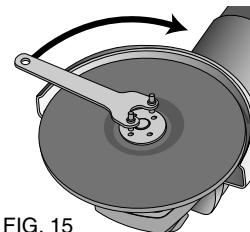

FIG. 15
5. Firmly tighten the threaded flange with the supplied spanner wrench (FIG. 15).
5. Firmly tighten the threaded flange with the supplied hex wrench (FIG. 15).
- While depressing spindle lock button, firmly tighten the threaded flange with supplied hex wrench (Fig. 15).